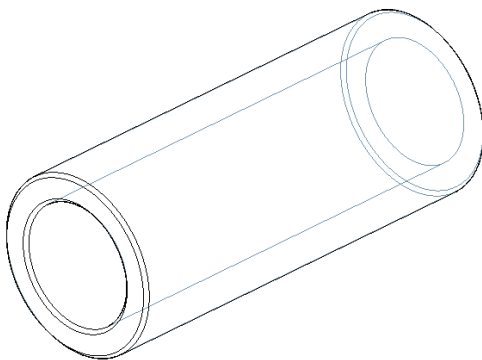

Figure 13: Mounting device for counter-rings
- 7) Auxiliary mounting devices, see figures 13 and 14 with hex screw M10x20.